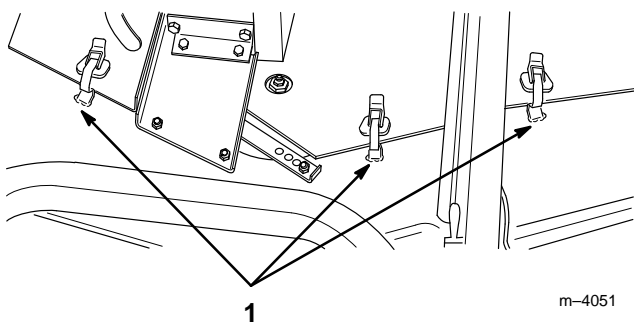

Figure 24
2. Release the latches holding the mower cover to the top of the cutting unit and remove the mower cover (Fig. 24).
8. Install covers onto the mower and secure latches (Fig. 24).